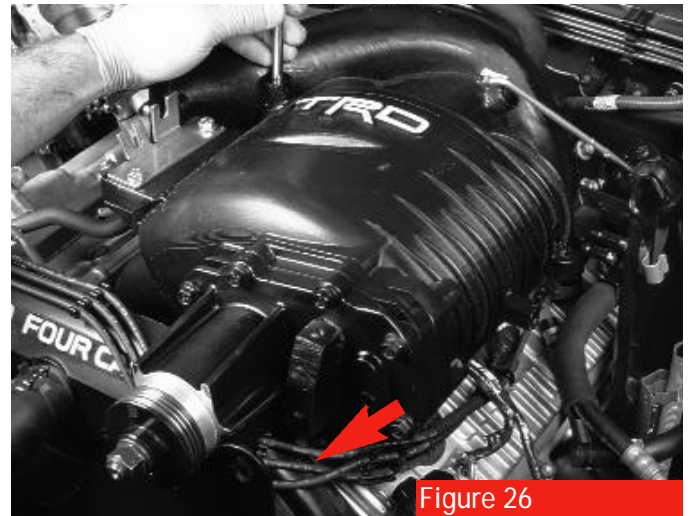

Figure 26
3. Lower the supercharger and manifold into place making sure there are no hoses or wires in the way. The ignition wires should be routed beneath the supercharger's drive housing **(see arrow, figure 26)**.